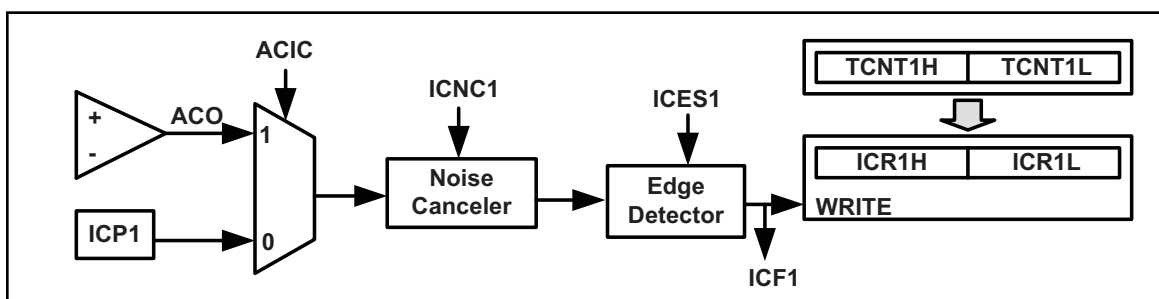

Figure 17. Capturing Circuit
As shown in Figure 17, there are two event sources: (1) the ICP1 pin, which is PORTD.6 in ATmega32, and (2) the output of the analog comparator. We can use the ACIC flag to select the event source. ACIC is a bit of the ACSR register, as shown in Figure 18.
**ACO (Analog Comparator Output)** The output of the analog comparator is connected to the bit. ACO is read only. See Figure 17.
**ACIC (Analog Comparator Input Capture Enable)** When the bit is one, the input capture is triggered by the Analog Comparator; otherwise, the ICP1 pin (PD6 in ATmega32) provides the capturing signal. See Figure 17.
As shown in Figures 17 and 19, we use the TCCR1B register to select the type of edge detection and activate/deactivate the noise canceller unit.